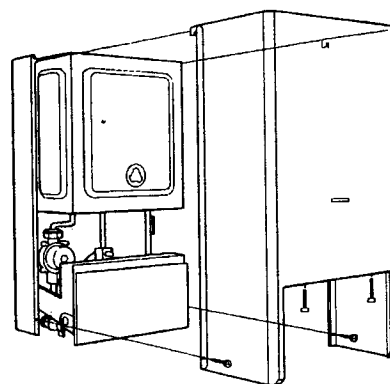

Fig. 23
- 6.14 Refixing the Front Cover fig. 23
- 6.14.1 Offer up the front casing to the back frame in a near vertical attitude and locate the hooks on the casing over the hooks on the frame. Slide the casing downwards to fully engage the hooks and to align the bottom fixing holes. Replace the four case retaining screws. (fig. 23)